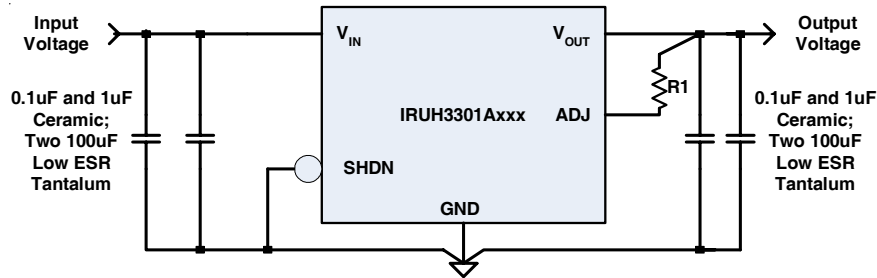

Fig. 1. Typical Regulator Circuit; Note the SHDN Pin is hardwired in the “ON” position. The ADJ Pin is connected as noted in the “General Layout Rules” section.
- ① Connected as shown in Fig.1 and measured at the junction of V_{OUT} and ADJ Pins.
② Under normal closed-loop operation. Guaranteed by design. Not tested in production.